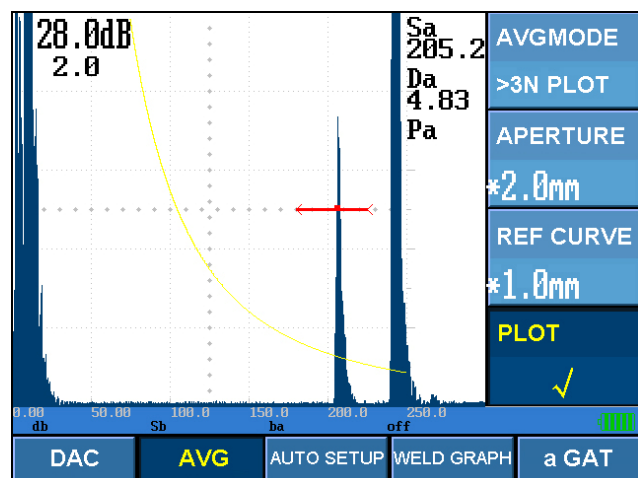

Figure 6-13 AVG Waveform Display
- (4) Enter AVG menu, adjust aperture to 2mm, equivalent of reference curve can be set according to requirement (here take 1mm for example). Move gate A to capture flat bottom hole echo, select "COMPLETE", then press [+] key to confirm AVG making. Refer to Figure 6-13.